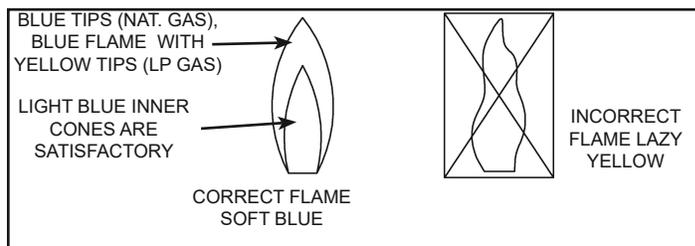

Figure 35
Inspect the burner flames through the viewport and compare them to the drawings in Figure 35. A properly operating burner should produce a soft blue flame. Blue tips with light blue inner cones are satisfactory. The tips of the flame may have a slight yellow tint. The flame should not be all yellow or have a sharp blue-orange colour. Contaminated air may cause an orange coloured flame. Contact your service technician if the flame is not satisfactory.
- Build up of soot and carbon on the main burner. Check for a soft blue flame (see Figure 35).
cause no excessive flame lifting from the burner ports. If the proper flame characteristics are not evident (see Figure 35), make sure that the flow of combustion and ventilation air is not blocked.